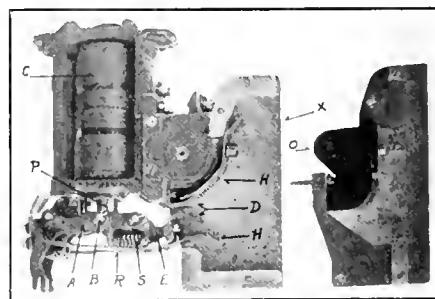

FIG. 19. VIEW OF CONTACTOR WITH ARC SIDE REMOVED.
A. A contactor is shown by Fig. 19 with one side of the arc box removed to show the switch contacts. Referring to this figure there is the coil or solenoid "C," inside of which projects the core
**A.** The shunts are shown as "R" Fig. 19. They connect the lower contactor to the casting and carry the current around the various pins shown.
**A.** Yes. Arcing horns "H" are provided to carry the arc to the front of the arc box "X" and a blow out circuit is provided to blow out the arc electrically. The Fig. 19 shows one side of arc box